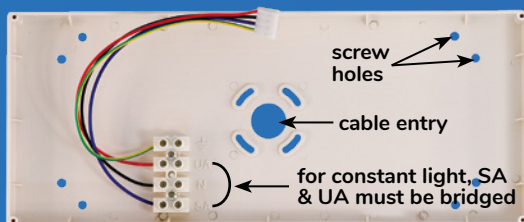

Fig 1. rear mounting bracket
1. Remove the EzyFit Exit Light from the packaging and inspect for damage. If any damage is found do not install the unit. Carefully place the unit back into its original packaging and notify EzyFit Australia on (02) 9932 2020.
2. On passing visual inspection, place the rear mounting bracket (fig 1) in the desired location on the ceiling and use a pencil to mark the position of the screw holes and cable entry position through the bracket.